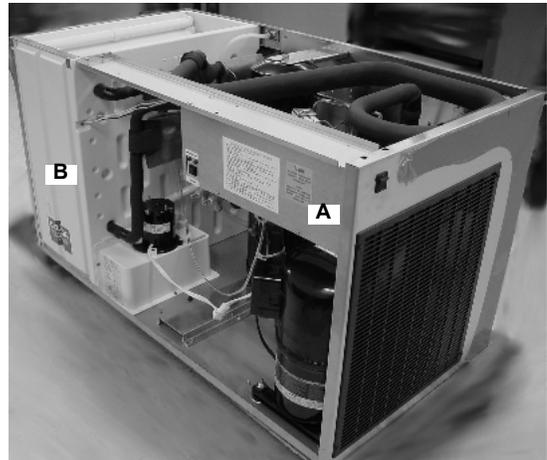

Figure 49.
67. After verifying the proper operation of the unit, replace the electrical control box cover (A) using (1) Phillips head screw.
Replace the evaporator splash panel (B) (Figure 49).